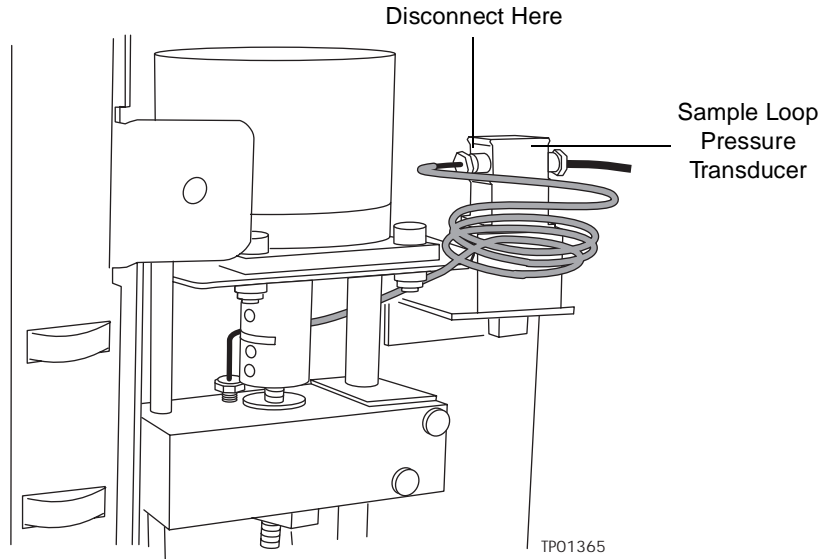

Figure 2-10 Disconnecting the Sample Loop
1. Use the 5/16-inch wrench to disconnect the sample loop from the pressure transducer, as shown in Figure 2-10.